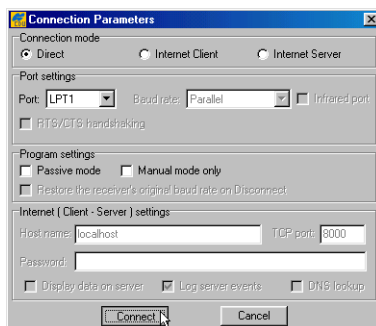

Figure 1-5. Parallel Port Connection Parameters
4. Click **Connect** (Figure 1-5 on page 1-11).